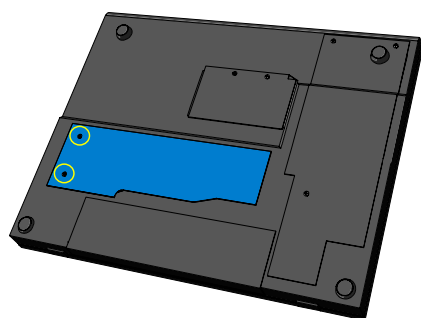

Fig.2
1. Remove the panel located on the underside of the notebook, adjacent to the battery (two screws hold panel in place). (See Fig.2)